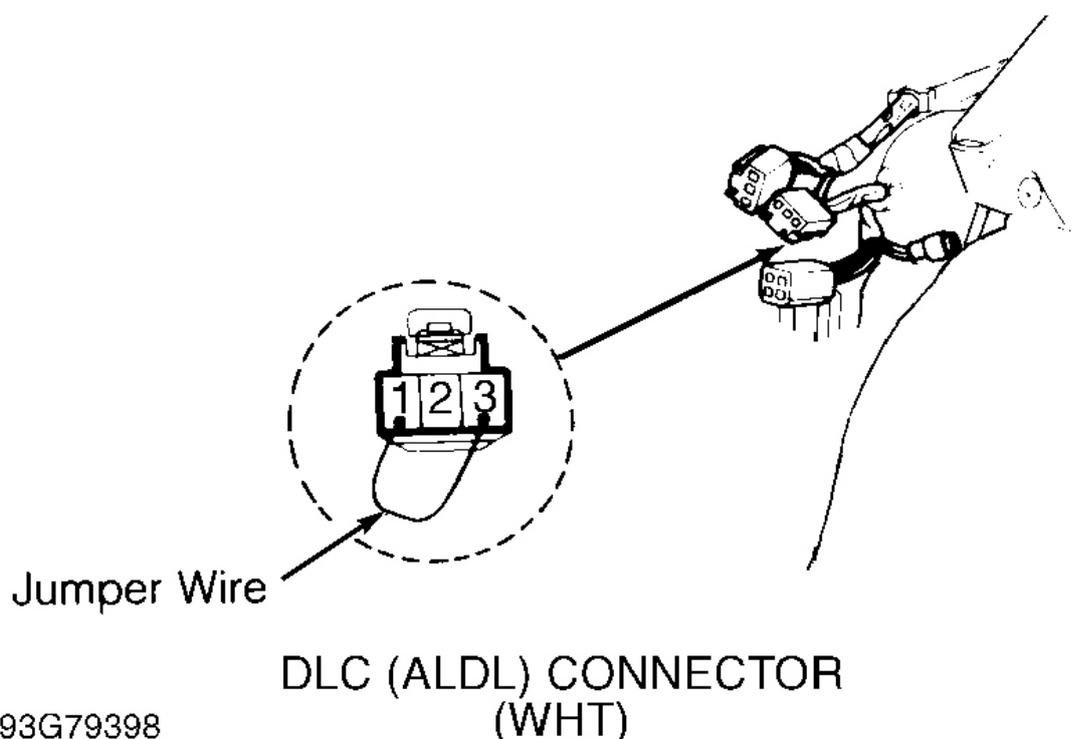

Fig. 1: Identifying DLC (ALDL) Connector Terminals
3. To retrieve codes, install jumper wire between DLC terminals No. 1 and 3. DLC is located at left kick panel. See **Fig. 1**.